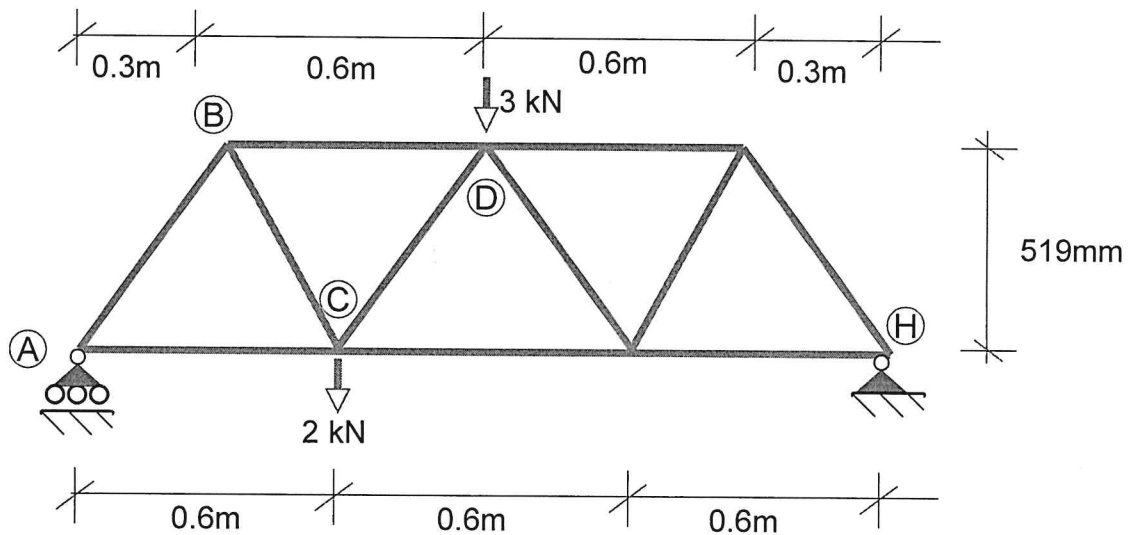

Fig.Q1
b) Consider the truss structure (Fig Q1) with two external loads at joint C (2kN) and D (3kN) and supports at A and H.